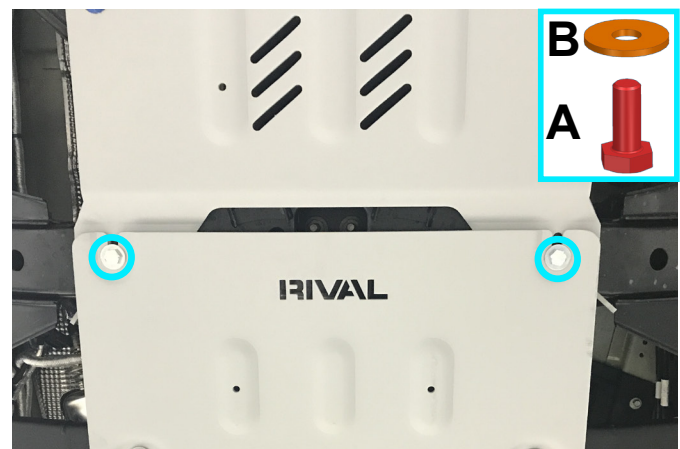

Fig. 4
4. Fix the rear part of gearbox skid plate (item 1) to insert nut M10 (item D) using bolts M10x30 (item A) and washers 10 (item B), as shown in fig.4.